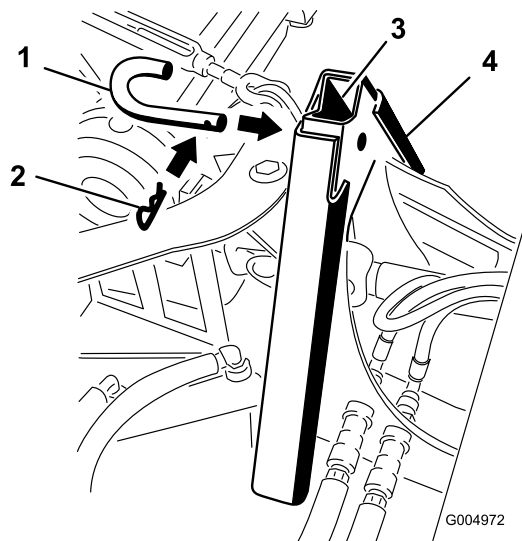

Figure 69
- Secure the adapters together with the attachment pin and hairpin cotter as shown in Figure 69.